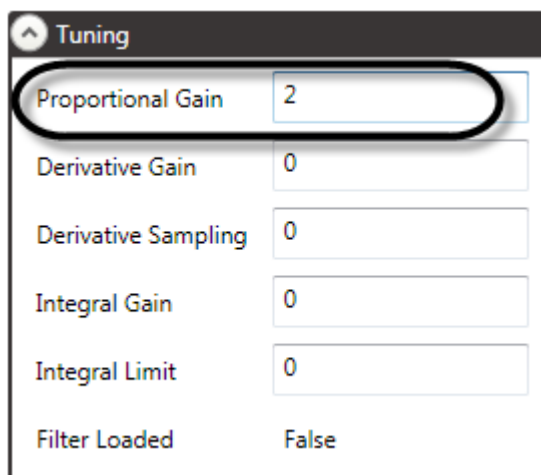

Figure 51
2. Increase the **Proportional Gain** value by 1 (Figure 51).